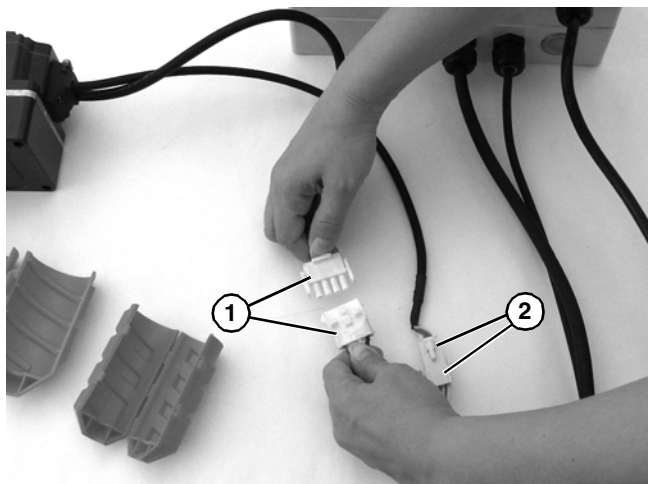

Figure 19
4. Unplug motor cord connectors (Figure 19, item 1) and signal cable connectors (Figure 19, item 2).